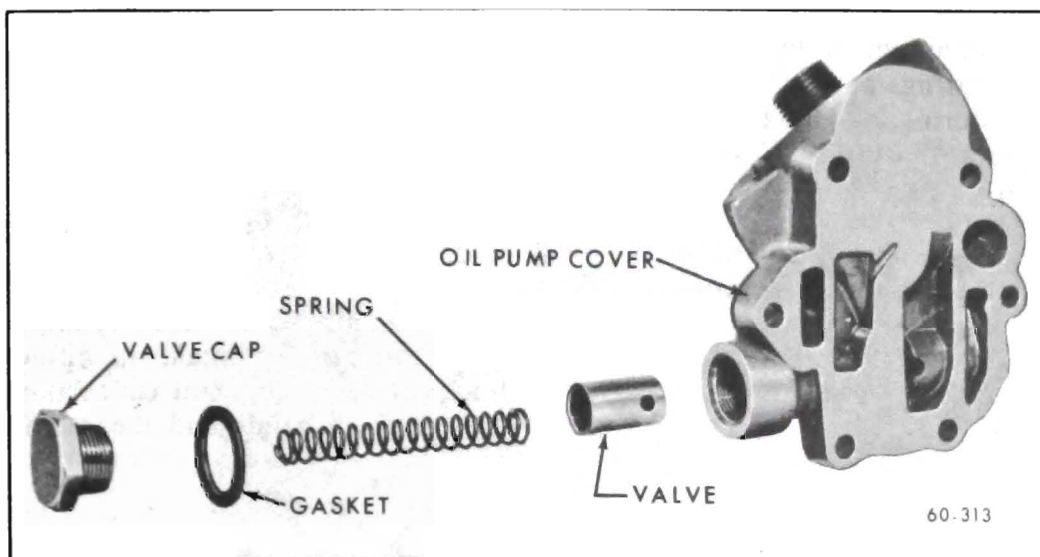

Figure 60-250 Oil Pump Cover and Pressure-Relief Valve
4. Remove the oil pressure relief valve cap, spring and valve. See Figure 60-250. Oil filter by-pass valve and spring are staked in place and should not be removed.
pump cover. See Figure 60-250. Install cap and gasket. Torque cap to 35 lb. ft. with a reliable torque wrench. Do not over-tighten.